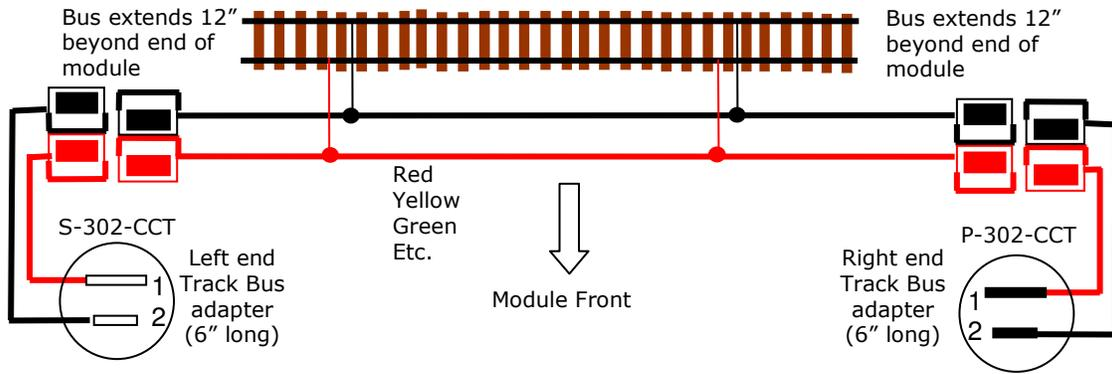

**Figure 3 – DC Power Bus Connectors (Horizontal Stacking)**
- **DC Power Bus:** Anderson 30 Amp Powerpole Red/Black set)- For both the left and right ends, the two connector housings are stacked *horizontally*, hood up, tongue down, with *red on the left and black on the right*, viewed from the contact end (Figure 3). This is the standard DC supply convention adopted by ham radio operators nationwide, and differentiates the DC Power Bus from the Track Buses, maintaining polarity independent of module orientation. Connector pairs should